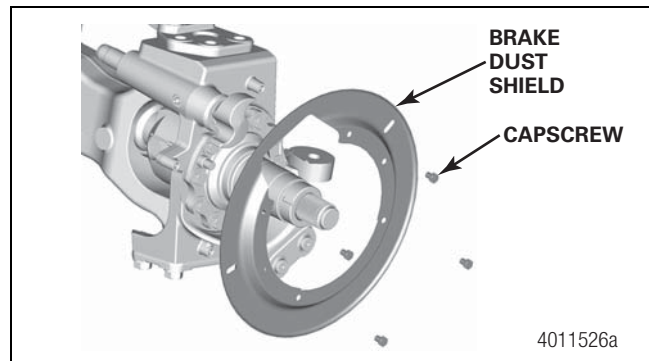

Figure 4.19
2. Remove the brake dust shield mounting screws and remove the brake dust shield. Figure 4.19.